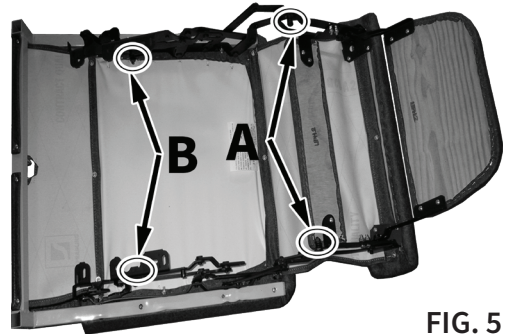

FIG. 5
2. Locate the two (2) hex nuts (A or B) on the left and right recline mechanisms. Use a 7/16" wrench and adjust both left and right hex nuts one full revolution. Turn right to tighten or left to loosen (FIG. 5).